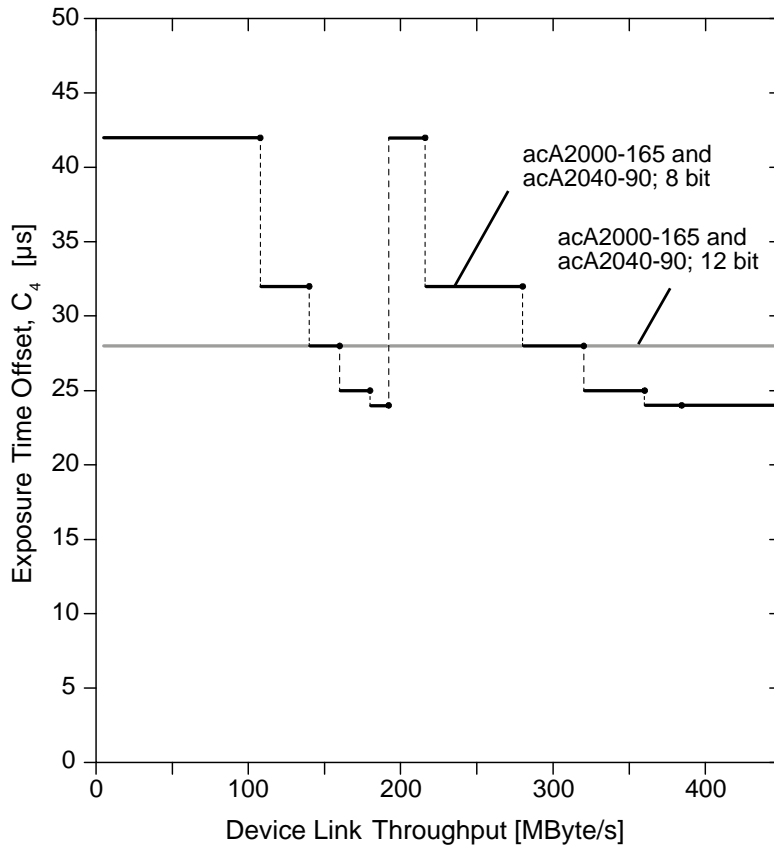

Fig. 55: Exposure Time Offsets Depending on Device Link Throughput; All 8 bit- and 12 bit-Pixel Formats
The exposure time offsets,  $C_4$ , and their dependence from pixel format bit depth and USB 3.0 bandwidth are given in Table 22 and Figure 55.
- Subtract the applicable value for  $C_4$  (see Table 22 and Figure 55) from the wanted exposure time. Use the resulting adjusted time as the high time for the ExFSTrig signal if the signal is not inverted or as the low time if the signal is inverted.